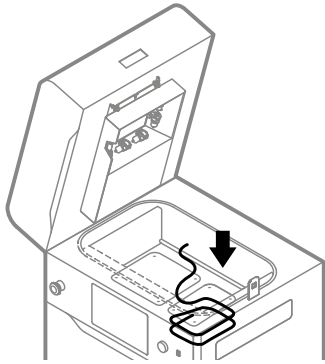

Fig. 12.26 Put on new fibreglass sealing.
19. Put on a new fiberglass rope by wrapping it two times around the Print Bed. Remember not to stretch the fiberglass rope (fig. 12.26).